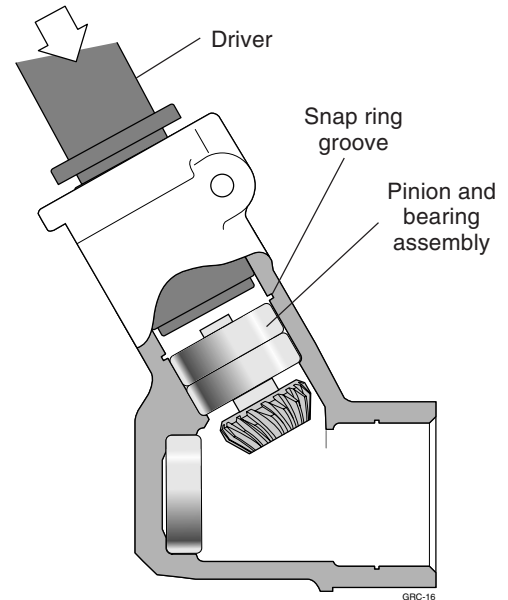

Figure 11.10 Installing the pinion and bearing assembly.
**STEP 1.** Hand-fit the pinion and bearing assembly into the gearcase input end, and use the appropriate driver to seat the assembly past the internal snap ring groove (Figure 11.10).